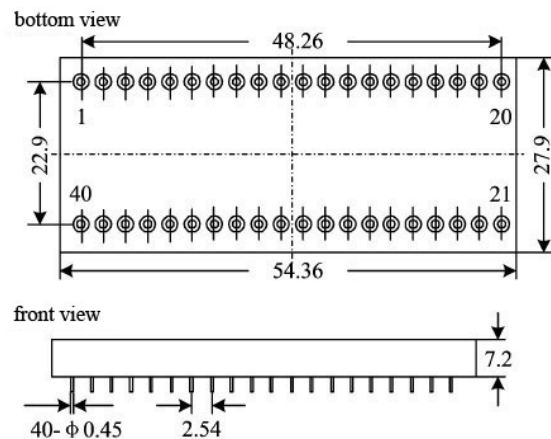

Fig. 6 Outside view and dimensions of package
10. Connection of converter (Fig. 6)